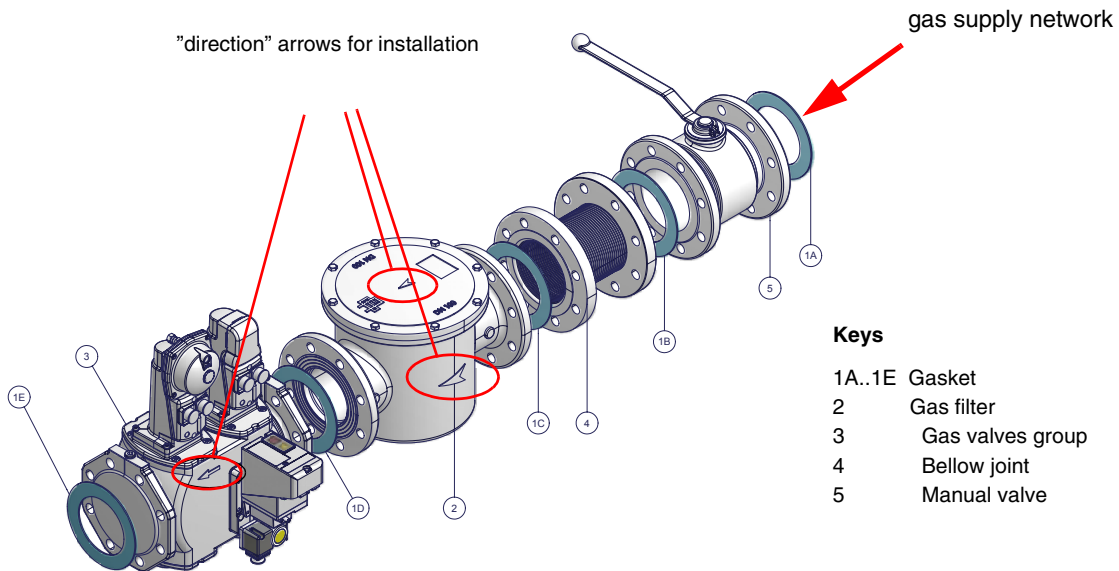

Fig. 2 - Example of gas train
- 1-b) in case of flanged joints: place a gasket (no. 1A..1E - Fig. 2) between the elements
ATTENTION: once the gas train is mounted according to the diagram (Fig. 2), the gas proving test must be performed, according to the procedure set by the laws in force.